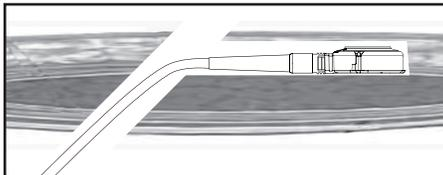

Figure 1. Gentle arching tubing transition through trocar hole
8. Failure to create a stable, smooth path for the access port tubing, without sharp turns or bends, can result in tubing breaks and leakage. In order to avoid incorrect placement, the port should be placed lateral to the trocar opening. A pocket must be created for the port so that it is placed far enough from the trocar path to avoid abrupt kinking of the tubing. The tubing path should point in the direction of the access port connector so that the tubing will form a straight line with a gentle arching transition into the abdomen (Figure 1).